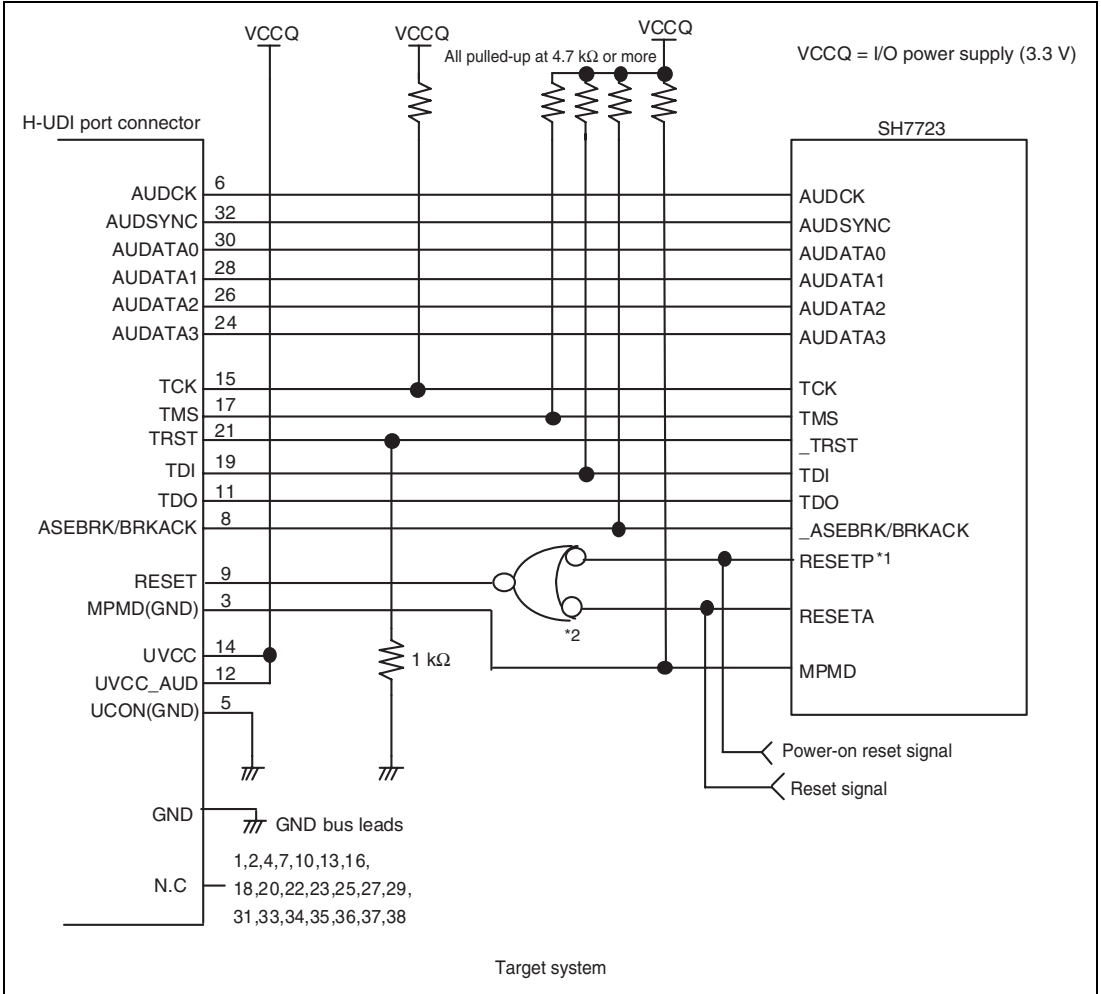

Figure 1.2 Recommended Circuit for Connection between the H-UDI Port Connector and MPU when the SH7723 E200F Emulator is in Use (38-Pin Type)
Figure 1.2 shows a recommended circuit for connection between the H-UDI port connector (38 pins) and the MPU when the emulator is in use.
- (1) When the emulator is used: MPMD = 0
- (2) When the emulator is not used: MPMD = 1Figure 1.2 shows an example of circuits that allow the MPMD pin to be GND (0) whenever the emulator is connected by using the user system interface cable.